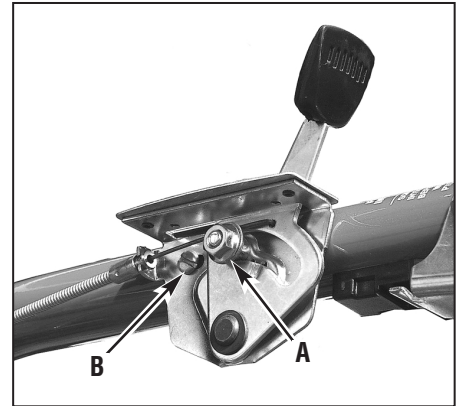

Figure 2-14: Engine Throttle Lever position and installation.
1. Run the throttle cable up the inside edge of the right handlebar and position the lever as shown in Figure 2-14.
2. From the outside of the handlebar, insert the curved head screw (A, Figure 2-14), through the handlebar and the center hole in the throttle lever mounting bracket.
4. From the lever side of the bracket, thread a pan head screw (B, Figure 2-14) through the small hole in the throttle lever bracket and into the handlebar. Tighten the screw securely.